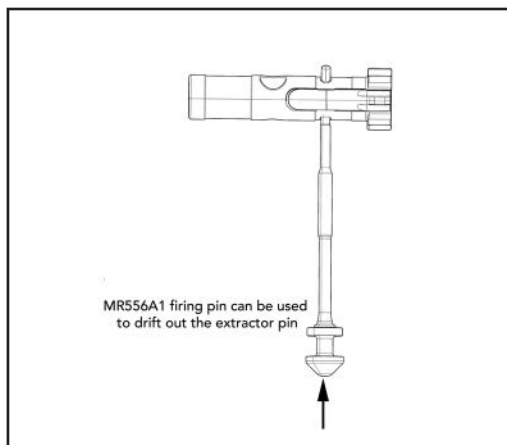

Fig. 42– Drift out the Extractor Pin
- g. Depress the rear of the extractor to equalize pressure and then drift out extractor pin utilizing the small tip of the disassembly tool. The rifle's firing pin can also be used. The extractor pin can be removed from either direction (Fig. 42).